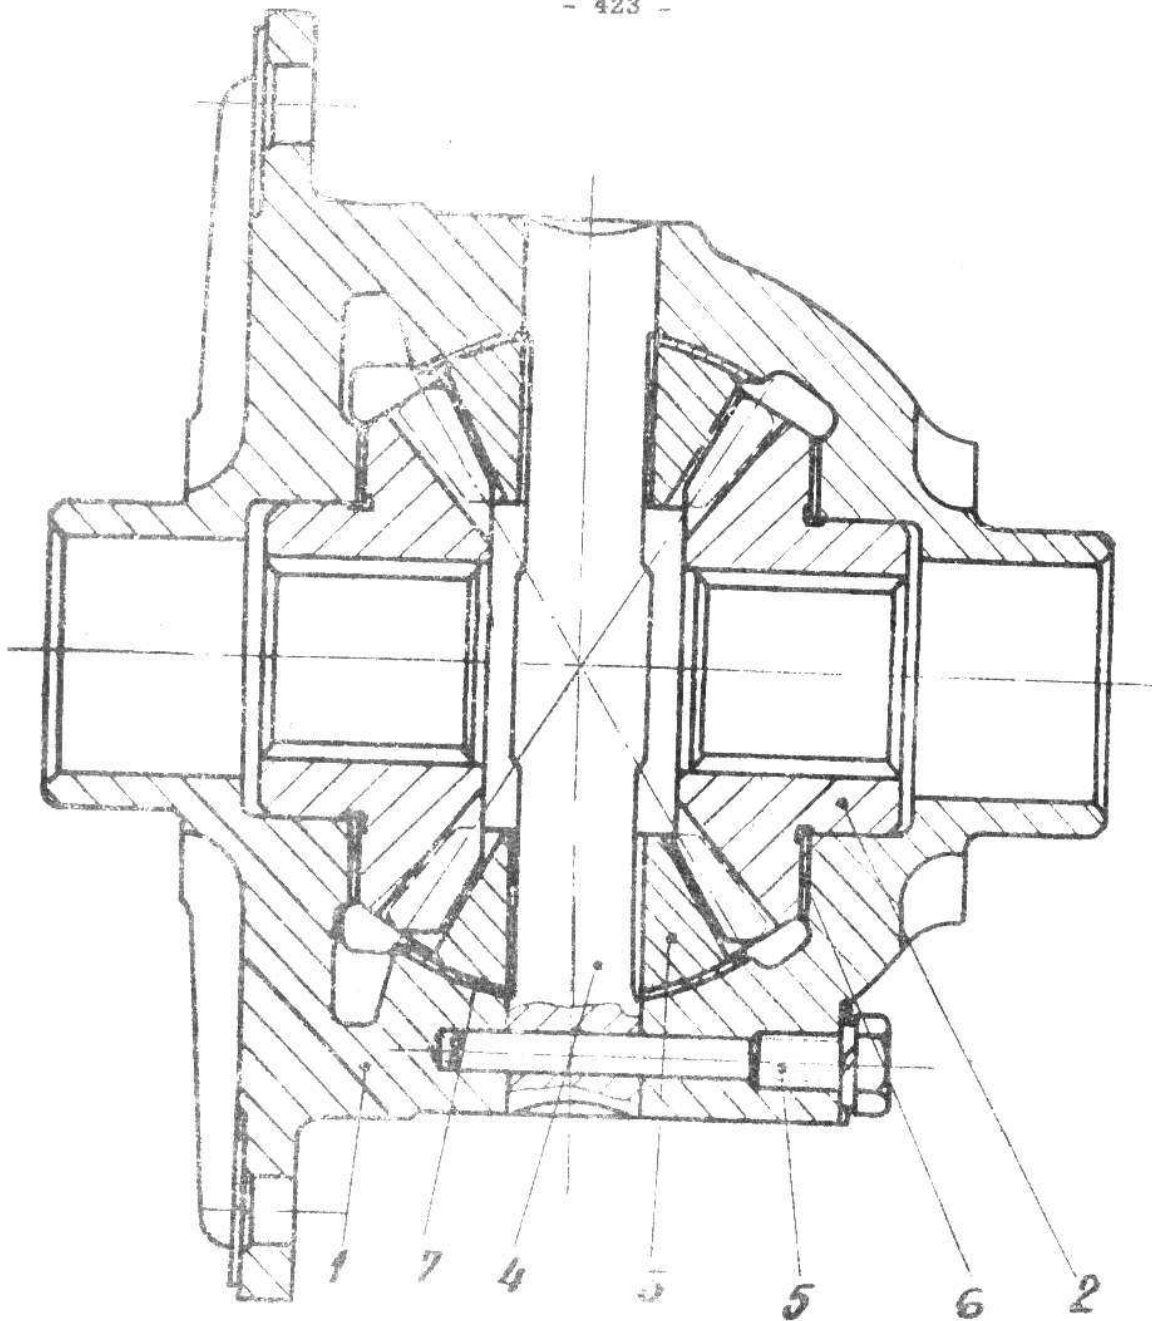

Fig. 4.116. DIFFERENTIAL CASE ASSY
- Unscrew bolts securing differential pinion spindles (see Fig. 4.116).
- Locking one of the differential side gears (planetary pinion), turn the opposite one bringing the differential pinions, one by one, facing the gear case opening and remove them through the opening, together with their thrust washers (7). On refitting differential gear case assy perform the above stages in reverse order, using the same special devices.